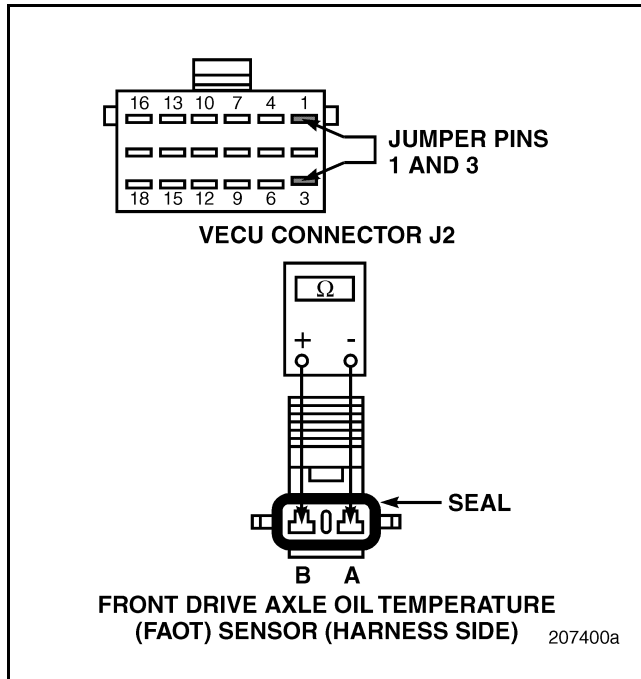

Figure 243
4. Check for continuity between pins A and B of the Front Drive Axle Oil Temperature (FAOT) Sensor harness connector (see Figure 243).